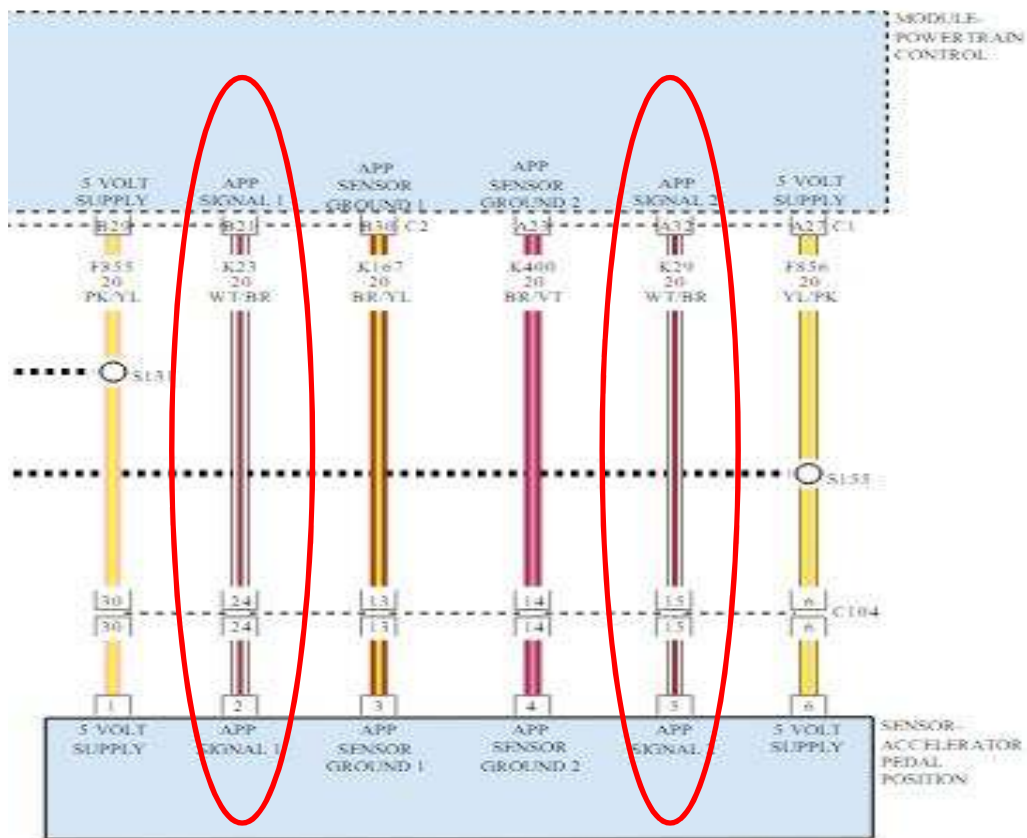

Figure 1 (Accelerator pedal position sensor - APPS)
9. Locate Accelerator Pedal Position Sensor (APPS) (**Figure 1**).
10. Attach supplied wiretaps, one each, to the two **WHITE/BROWN** wires on the APPS sensor (**Figure 1**).